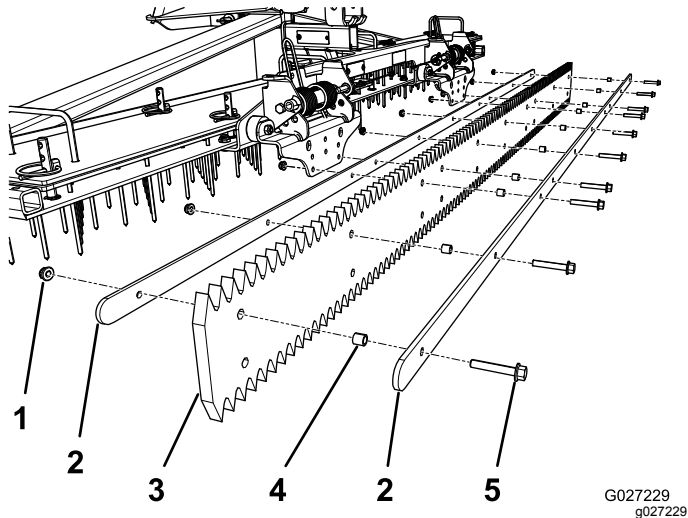

Figure 12
1. Remove the 10 nuts and the 10 bolts securing the 2 support straps to the rubber trowel (Figure 12).